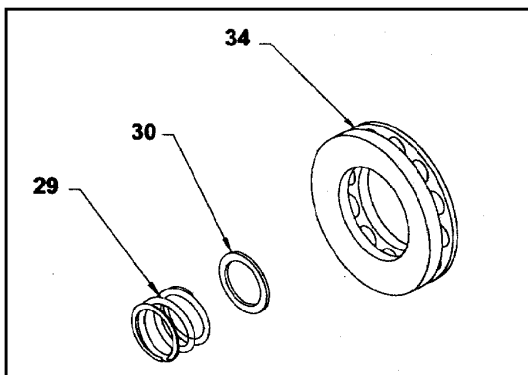

Figure 11
- 1) Install thrust bearing and race assembly (34).
**NOTE: The difference in race thickness: the thin race seats into the swashplate (32). The thicker race will be installed toward the piston noses.**
- 2) Install thrust washer (30).
- 3) Install block spring (29). **Figure 11**